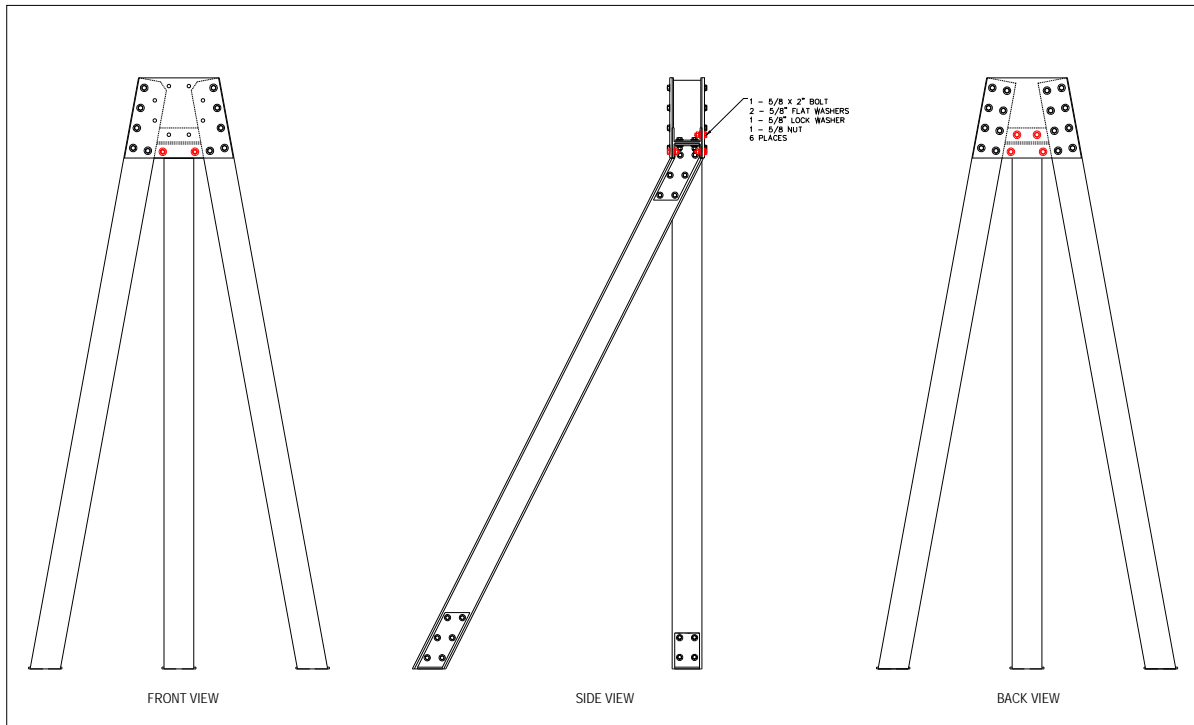

Figure 4-9 Assembly step 11
- (11) Insert the cross member of the angle leg assembly between the two "base side" plates, from the bottom and in between the two legs. Do so with the leg pointing out the same side as the "front" base plate. Loosely fasten with four 5/8" x 2" bolts on the back side and two 5/8" x 2" bolts on the front side (lower holes). Refer to Figure 4-9.